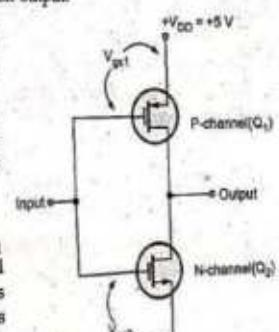

Fig. 3.4.1 CMOS inverter circuit
- Fig. 3.4.1 shows the basic CMOS inverter circuit. It consists of two MOSFETs in series in such a way that the P-channel device has its source connected to  $+V_{DD}$  (a positive voltage) and the N-channel device has its source connected to ground. The gates of the two devices are connected together as the common input and the drains are connected together as the common output.